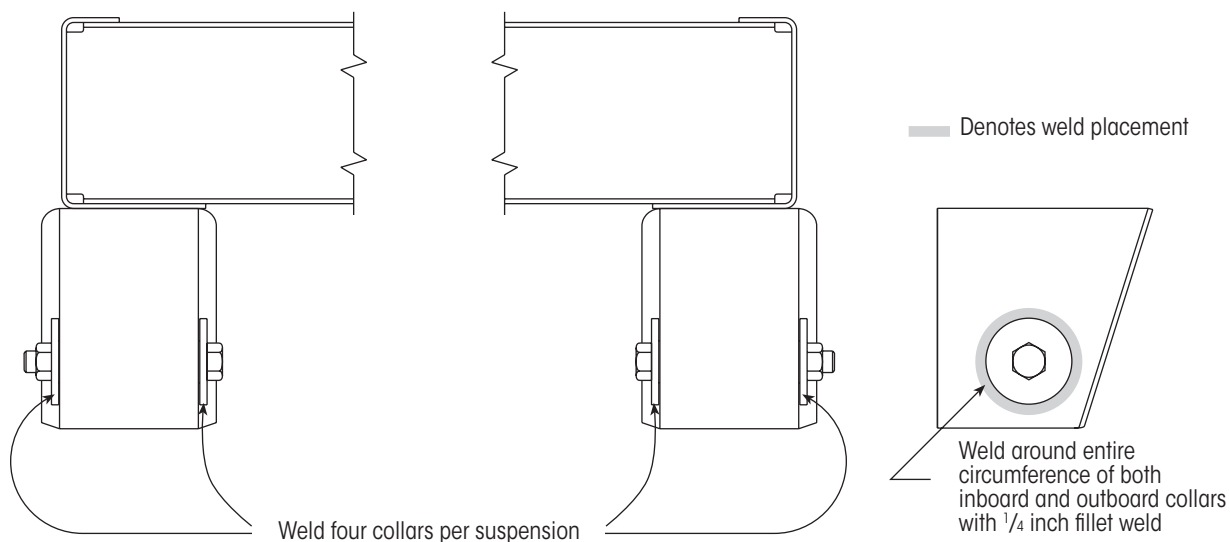

Figure 26: Welding locations on welded collars
7. **Weld** around the inboard and outboard collars on each end of the axle with a 1/4 inch fillet weld (Figure 26).